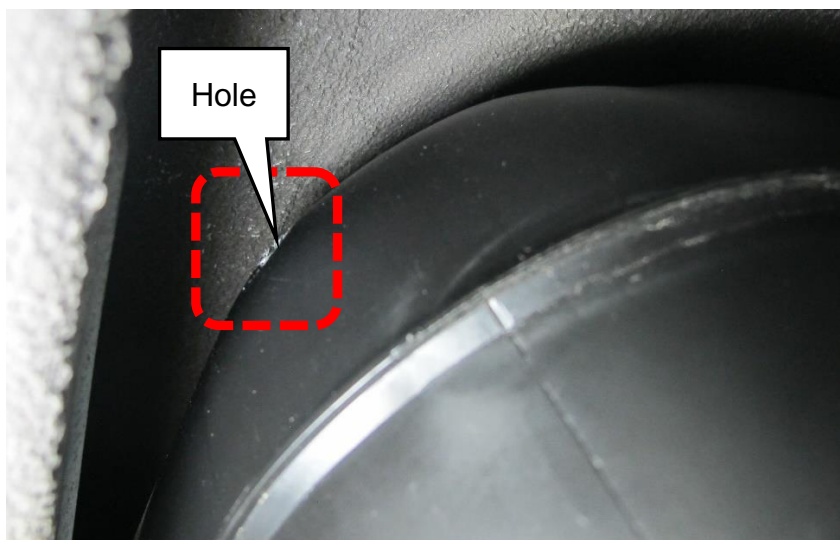

Figure 5
- Inspect the top left front corner of the fuel tank for a hole or any drill bit scratches/scuffing. See Figures 5 and 6 for reference.